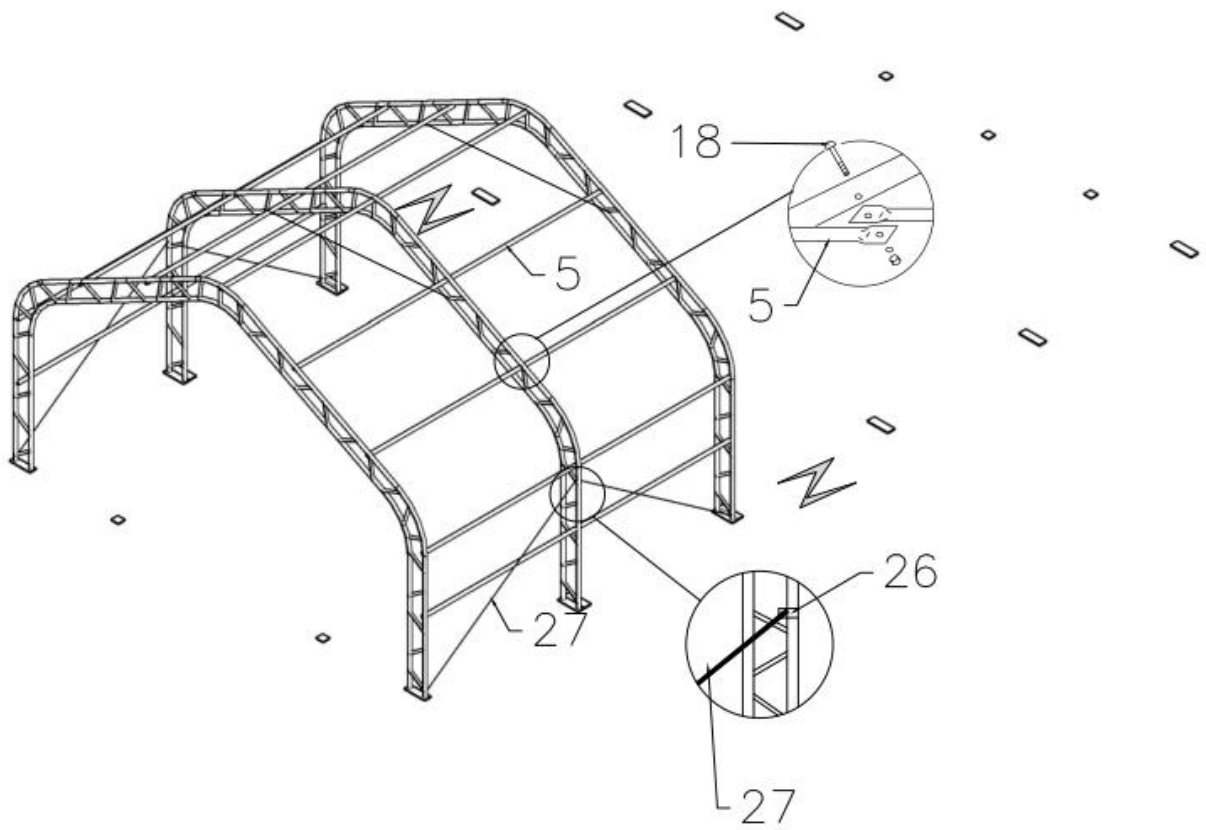

Figure 5
3.Connect Purlin(No.5) to arch by using Carriage bolt M8\*80mm (No.18) by turns(see Figure 5),then connect the Steel wire(No.27) on top and side by using Clip(No.26) (see Figure 5).